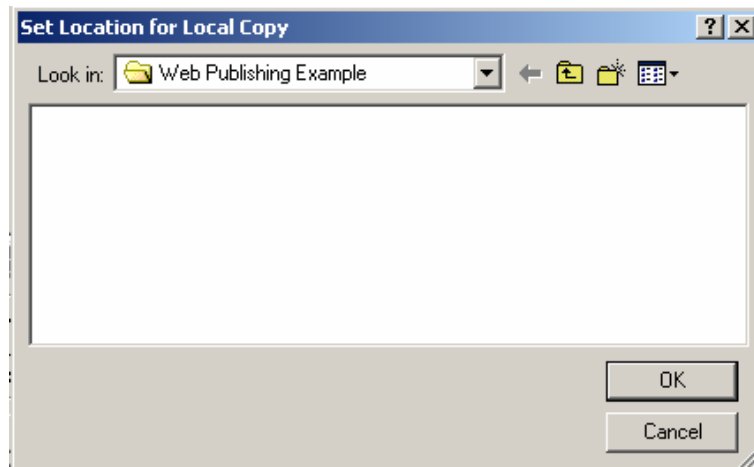

Figure 4.6. Setting the Local Directory
3. In the **Publishing Options** field, check the **Export Local Copy** check box and specify the local directory path name to which you want to export the HTML file. You can select a recently used path from the drop-down list, or click the ... button to browse for a destination directory, as shown in **Figure 4.6**. Select the directory and click **OK**.